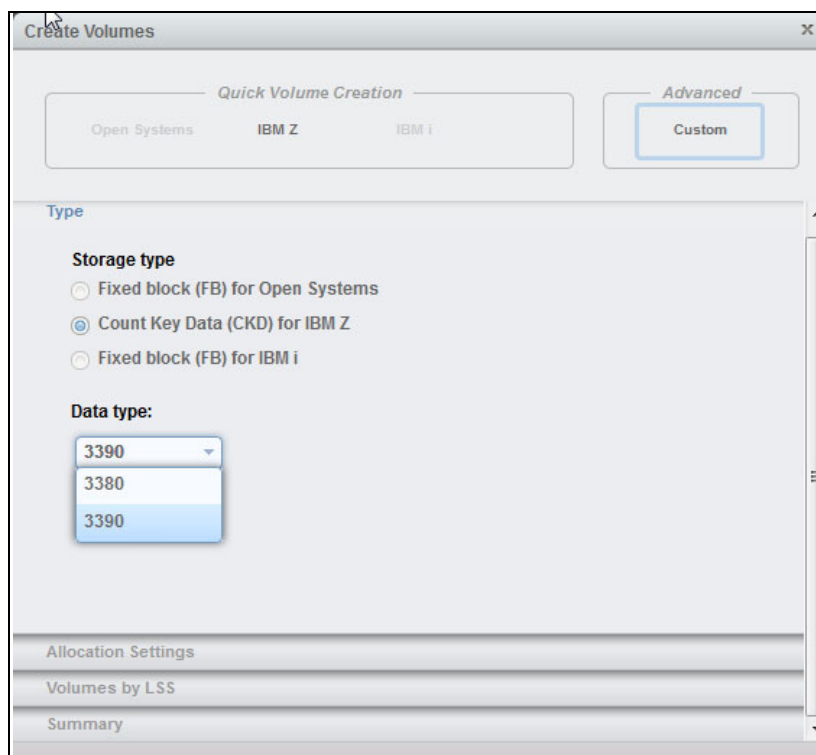

Figure 11-98 Create CKD Volumes: Advanced: Type Selection
2. The Type selection window appears, as shown in Figure 11-98 on page 344.